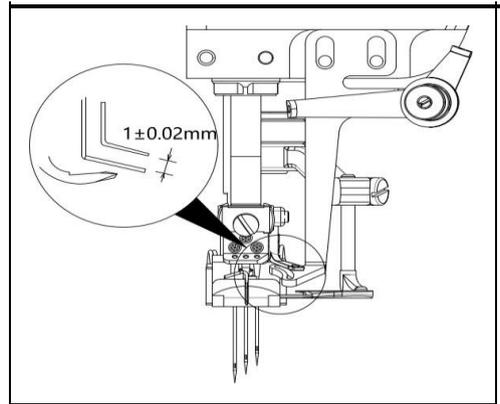

Figure 7-11
(2) With the needle bar at the lowest position, set the gap between the upper decorative thread guide② and the top surface of the decorative thread guide ① to $1\pm 0.02\text{mm}$. (Figures 7-11, 7-12)